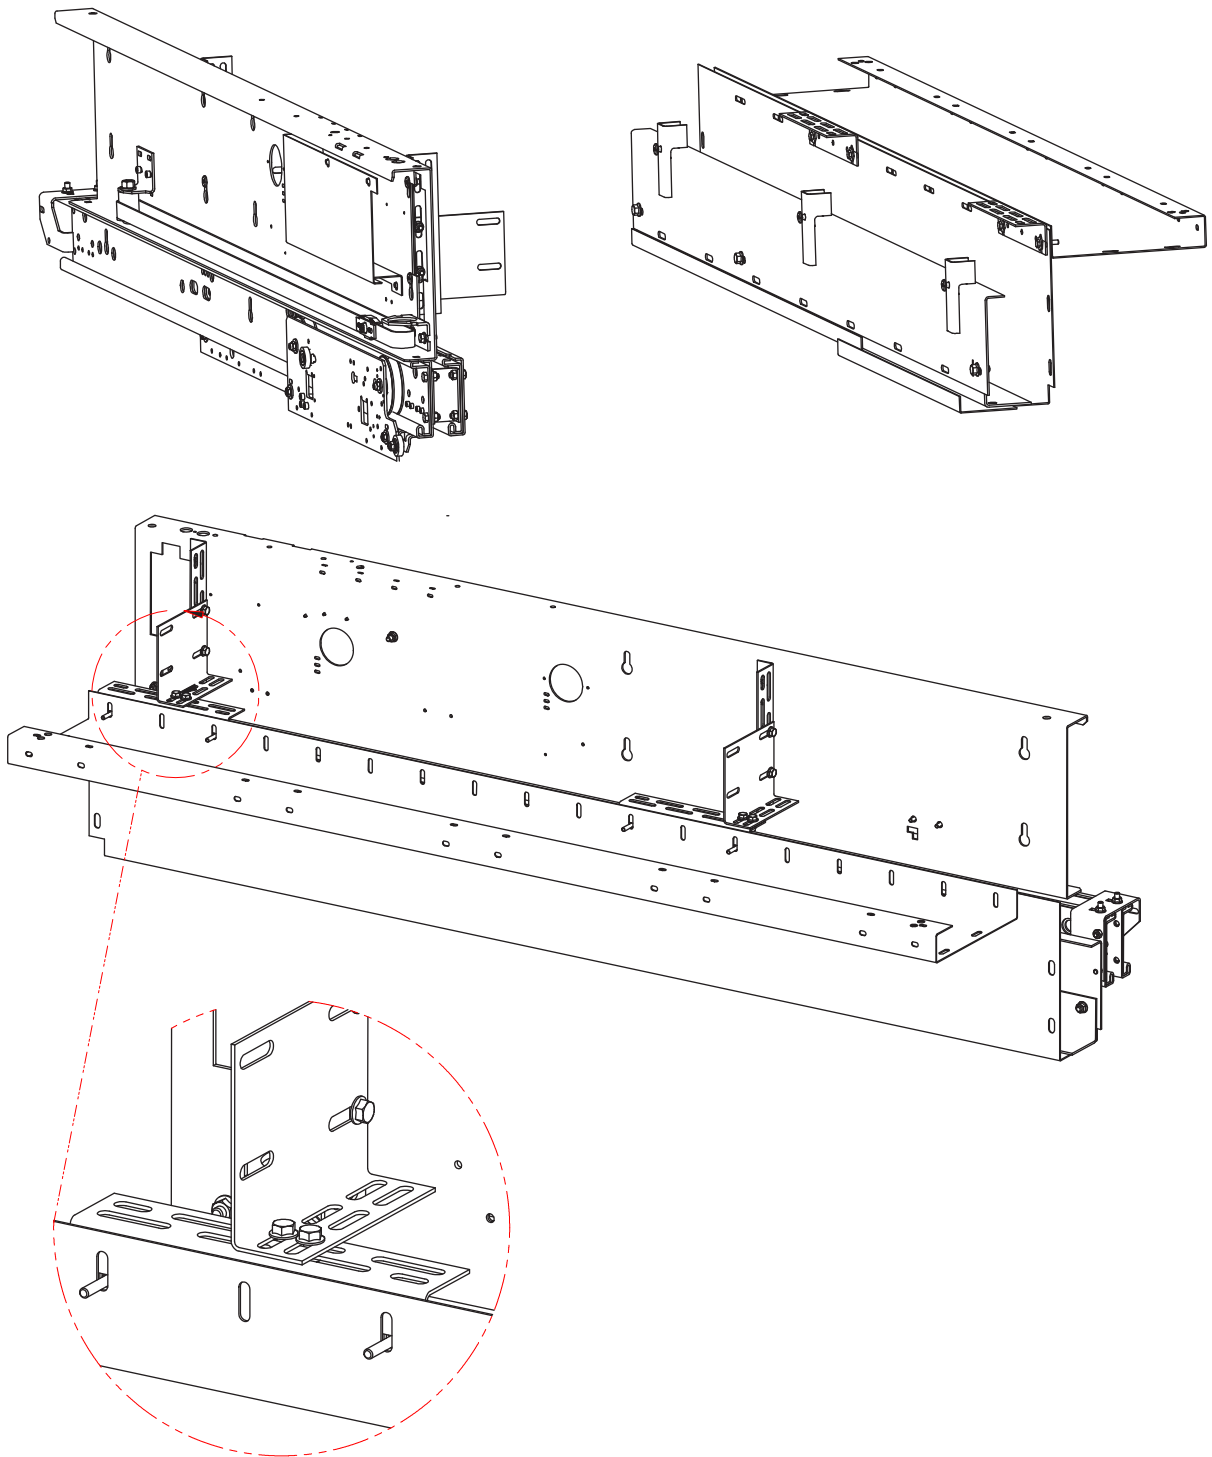

Figure 36 - Door Operator Installation
5. Install the door operator. Figure 36 on page 45.